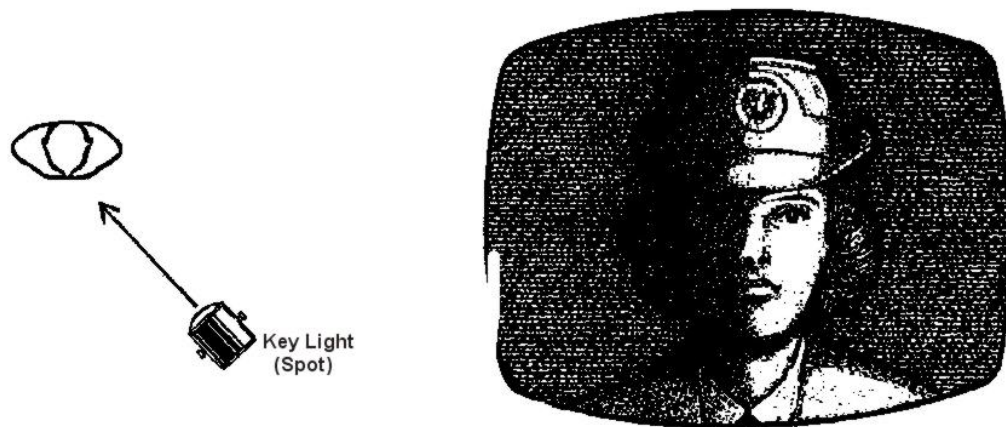

Figure I-5. Key Light on a Person
b. When setting up three-point lighting, the primary source of illumination is the key light (Figure I-5). Its main function is to bring out the basic shape of an object. In order to do this, the key light must produce some shadows. A spotlight is generally used as the key light. This allows a great deal of directional control over the light.
c. When lighting is natural, the light is coming from above. Therefore, the key light is placed above and to the left or right front side of the subject being lit. This is from the camera's point of view (Figure I-5). Note the deep shadows present on the side of the face opposite the key light. When the key light is set, the object will have very dark shadows on the side opposite the key light.